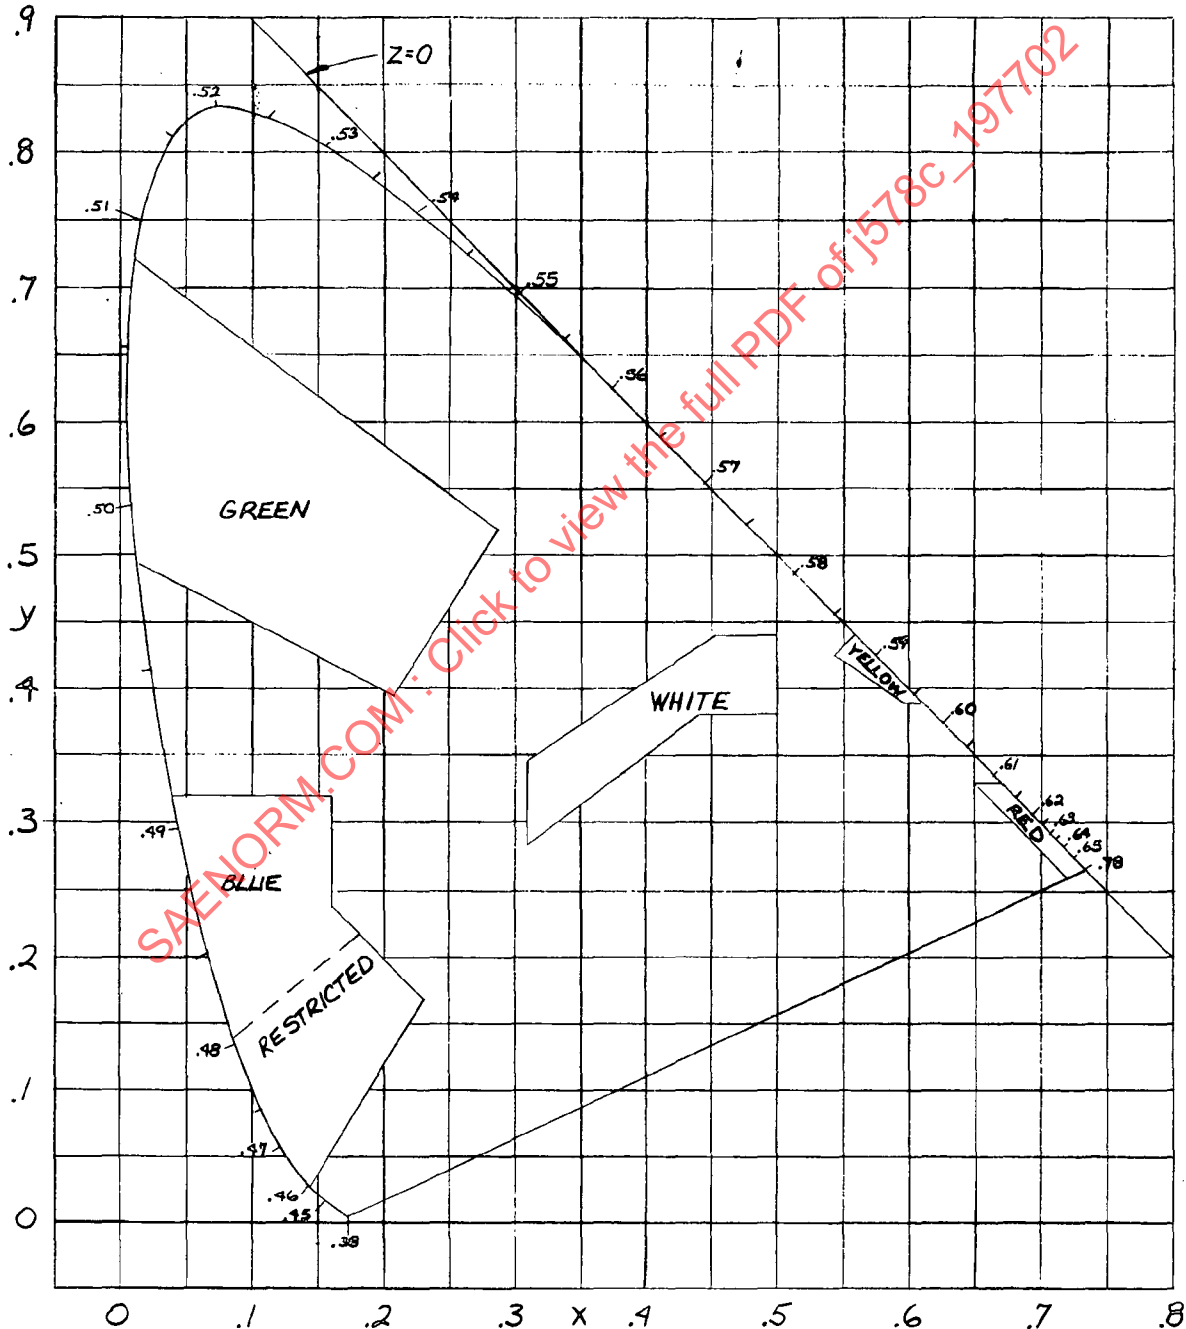

FIG 1—CHROMATICITY DIAGRAM
**2. Definitions**—Fundamental definitions of color are expressed by Chromaticity Coordinates according to the CIE (1931) standard colorimetric system. (See Fig. 1.)